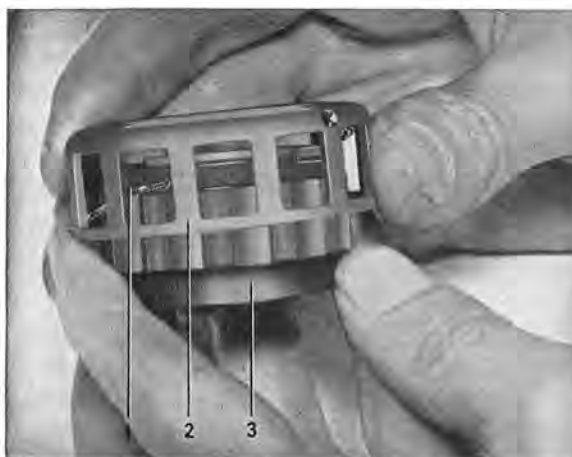
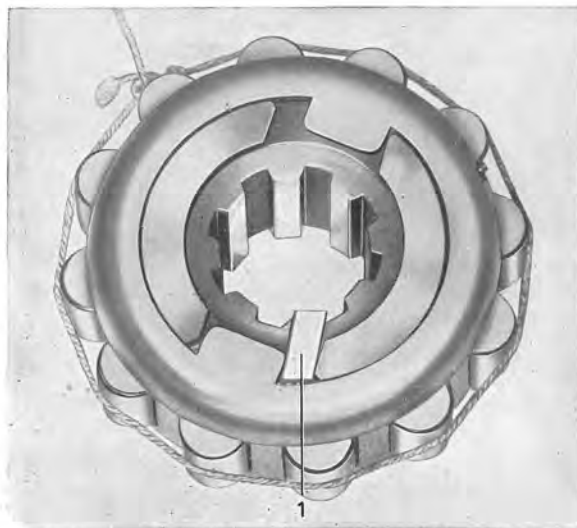

Fig. 4-53. Assembling uni-directional clutch, I
Fig. 4-54. Assembling uni-directional clutch, II
5. Assemble the uni-directional clutch, spring and roller cage, see Fig. 4-53. Turn the roller cage clockwise as far as it will go and lock it in this position with a key as shown in Fig. 4-54. Place in the rollers. Tie a piece of rubber band or string round the rollers.